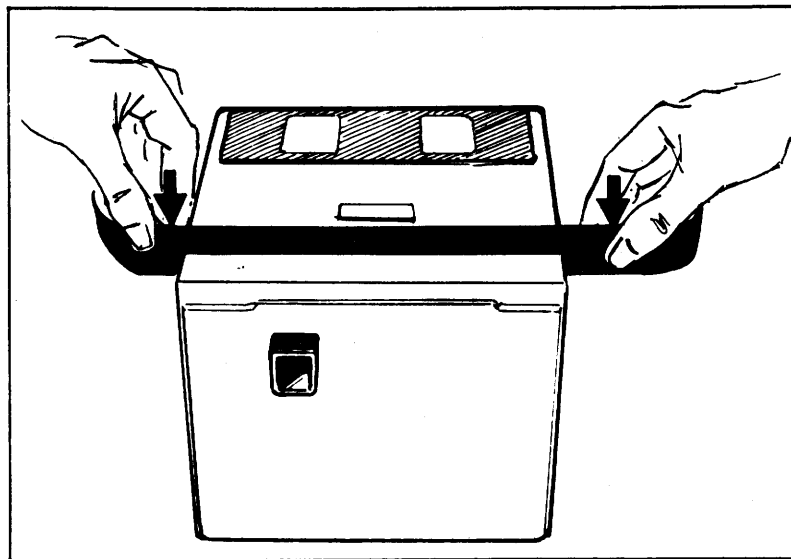
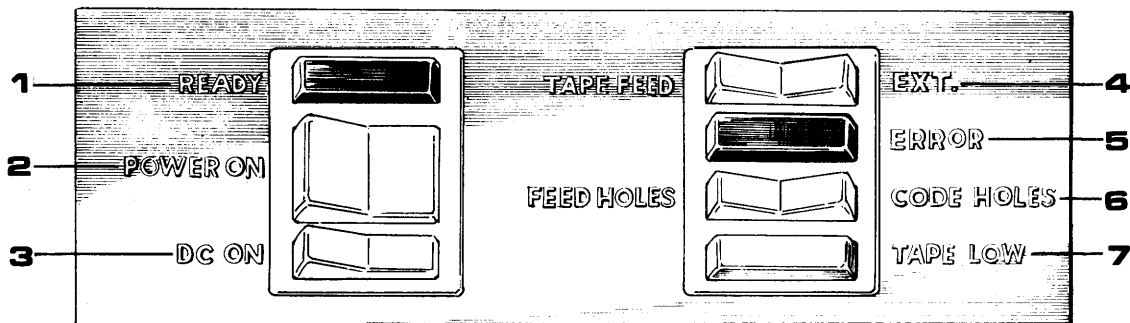

Figure 3. Threading the paper tape into the punch slot.
Fig. 4. Control Panel
1. Place a spool of paper tape over the drive hub so that pulling the tape will make the reel turn clockwise. While holding the supply reel sensor (11) and the automatic take-up drive motor (1) to one side put the spool of paper tape onto the supply reel (4). While holding the automatic take-up drive motor (1) to one side, put the top of the spool on to the reel of tape and release the automatic take-up drive motor (1). Push the center of the hub down to the lock the spool. Feed about 1/2 metre of paper tape by pressing Feed Holes button (6) in Figure 4.
2. Thread the paper tape around the outside of fixed guide (6) and between fixed guides (5) and (6). Take the paper tape inside tension arm (3) and around the outside of fixed guide (5) and along the outside of the machine to the punch slot (13). Move the tension arm (3) to the magnetic locking plate (12).
3. Feed the tape into the punch slot from (13) to (14) and as shown in Figure 3.